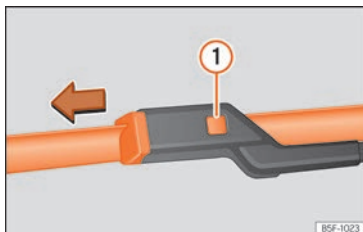

Fig. 85 Changing the windscreen wiper blades
- Press and hold release button » Fig. 85 ❶ and pull gently on the wiper blade in the direction of the arrow.